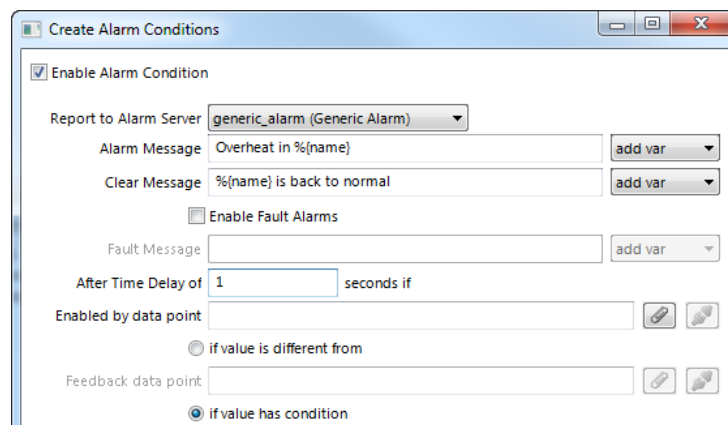

Figure 57: Common settings for an alarm condition.
3. For the alarm condition edit the following definitions, which apply to all condition types as shown in Figure 57. Select the **Alarm Server** which the alarm shall be reported to. Typically, you will choose a generic alarm server.
4. Enter an **Alarm Message**. This is shown when the alarm becomes active. You may add variable placeholders to this message by selecting one from the drop-down box **add var** on the right-hand side. A detailed description of available placeholders can be found in Table 3 of Section 3.4.1. Enter a **Clear Message**. This is shown when the alarm clears. For analog alarms, the alarm message is split into a low-limit (LO) message and a high-limit (HI) message, respectively. By clicking  you may attach a data point, which then holds the respective alarm message. This can also be done by editing the property relations 'msgXXX' (see Section 4.2.8). Detach the data point by clicking .